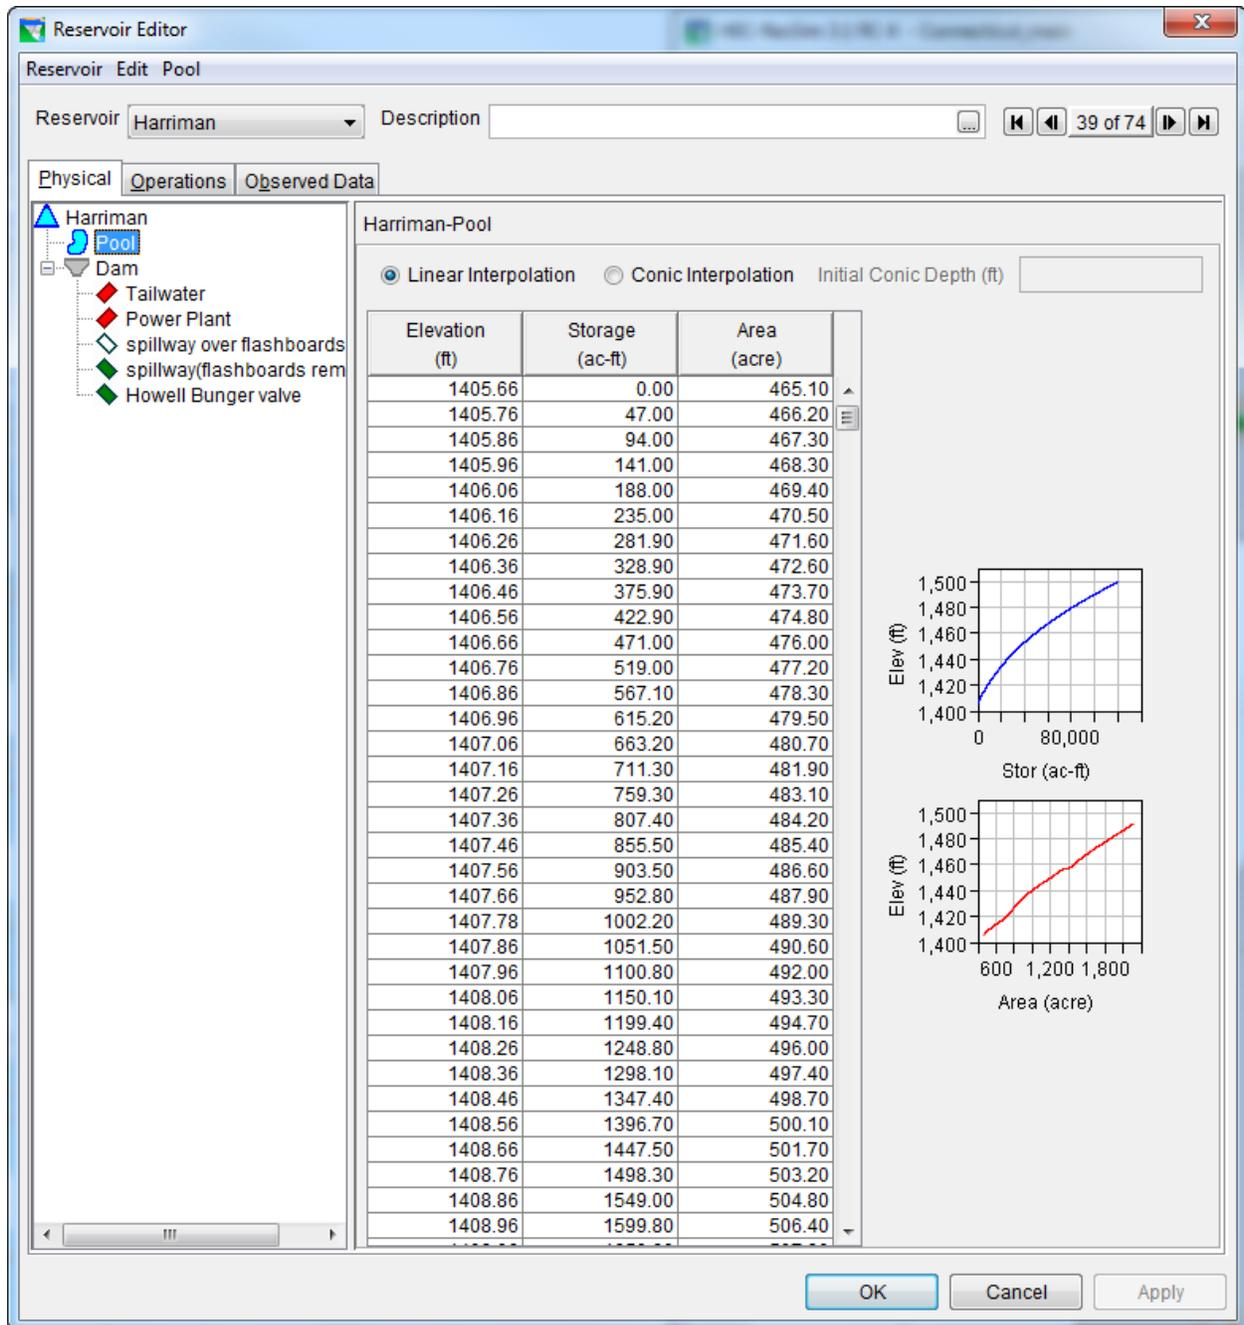
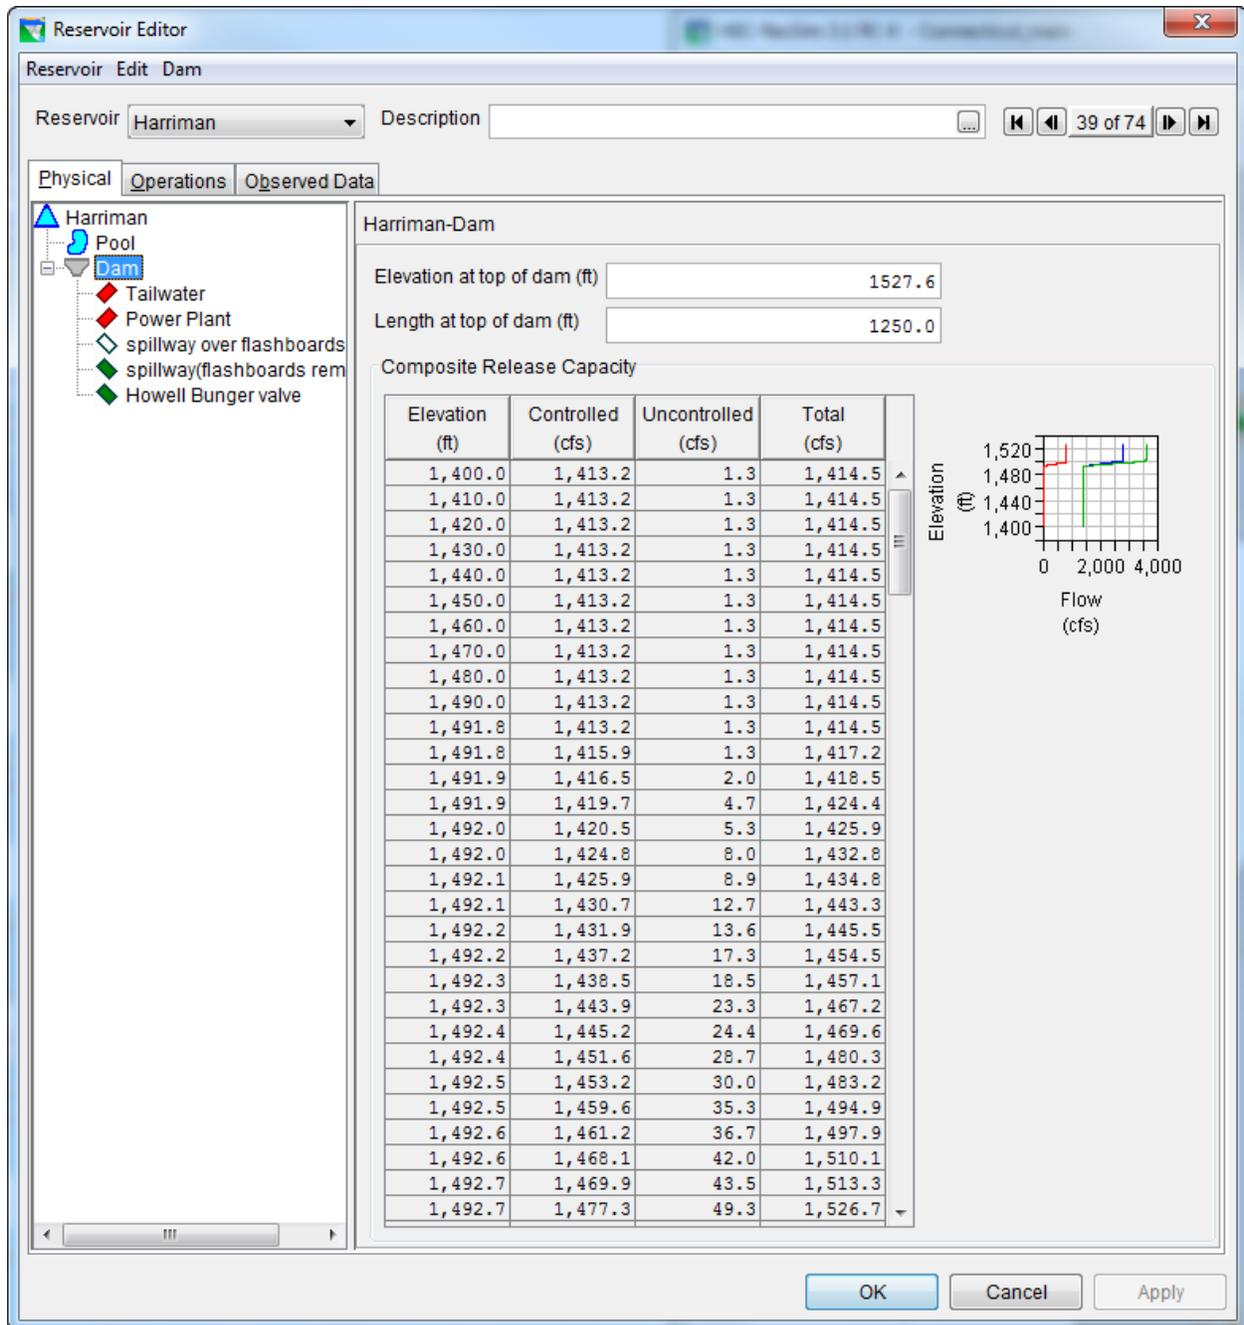

Figure 3: Reservoir Editor: Physical Tab -- Pool
Figure 4: Reservoir Editor: Physical Tab -- Dam
The physical characteristics of the reservoir are separated between the Pool and the Dam in the HEC-ResSim model. The elevation-storage-area defines the pool as shown in Figure 346. The dam consists of four types of outlets: (1) uncontrolled spillway, (2) controlled spillway, (3) Howell Bungler Valve, and (4) power plant as shown in Figure 4.